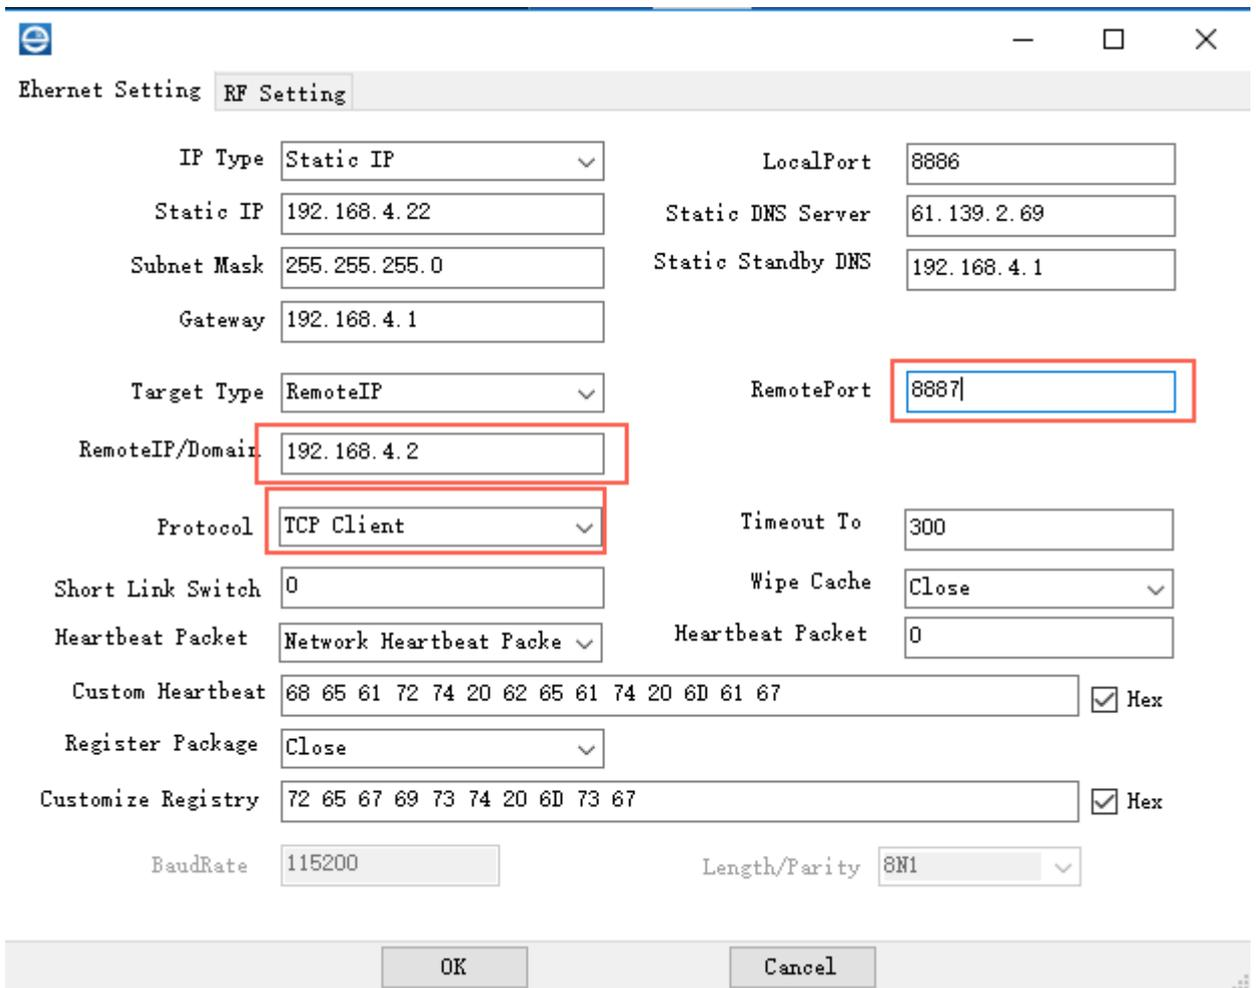

Figure 10 Parameter setting instructions
1) Similar to TCP Server operation, as shown in Figure 10, if use the network test tool, the target address must be set to match the computer network card (for example: wired network card is 192.168.4.2, target port is 8889).